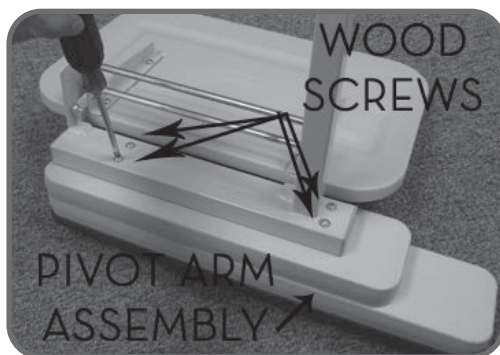

FIG. 1
2. Use a Phillips or #2 square bit screwdriver to remove the **four (4)** wood screws on the underside of the arm assembly that hold the pivot arm assembly onto the steel arm support (**FIG. 1**).